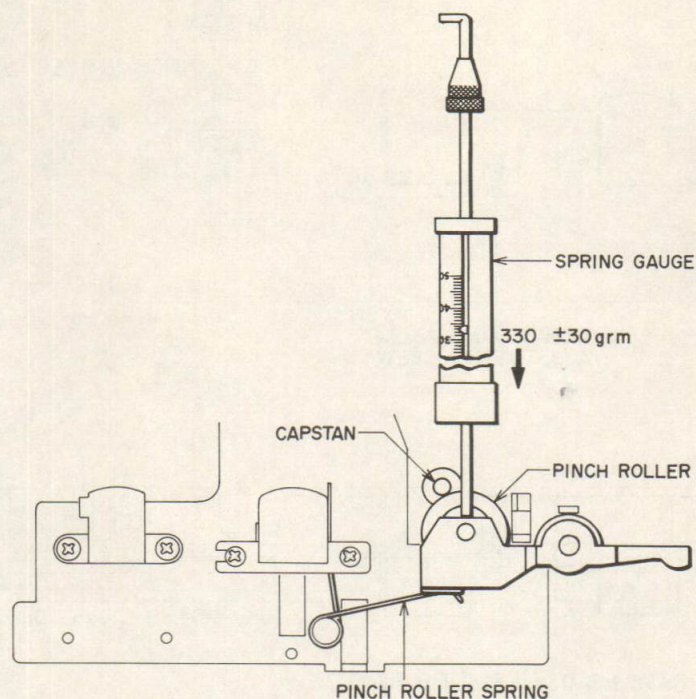

Fig. 10
3. PINCH ROLLER PRESSURE MEASUREMENT (Refer to Fig. 10)